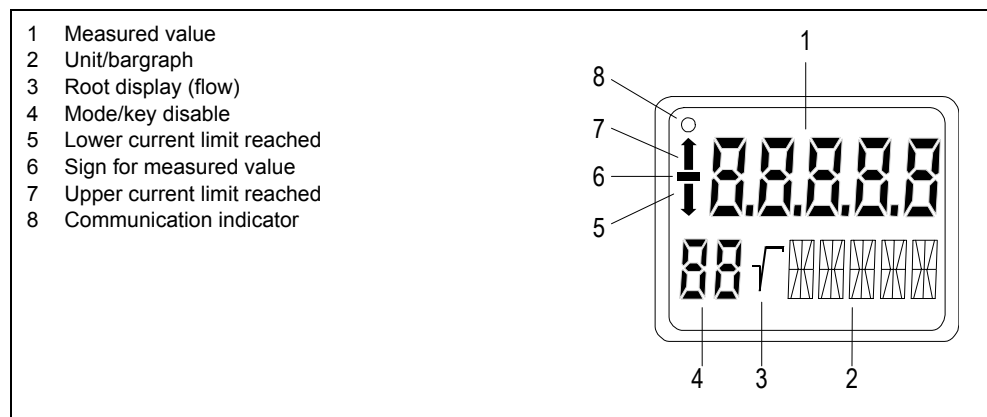

Figure 12 Structure of the digital display
A plug-in standard display is used for local display of the measured value (1, Figure 12, pg. 24) with unit (2), sign (6), status (5, 7) and mode (4). The root sign (3) is used for the device variants "differential pressure and flow". Active communication, e.g. with a HART Communicator, is displayed by flashing of the communication indicator (8).